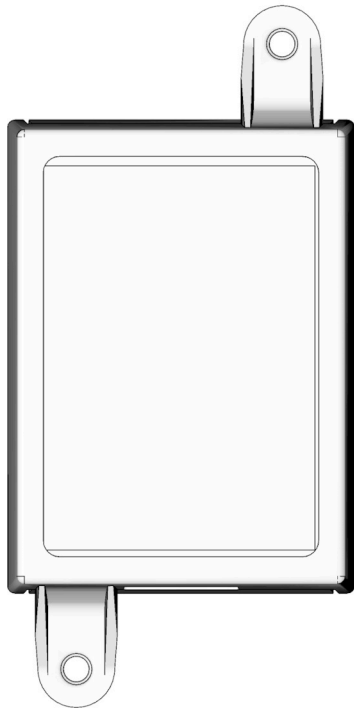

FIG. 3
2. Align the junction box with the pre-drilled holes (FIG. 3).